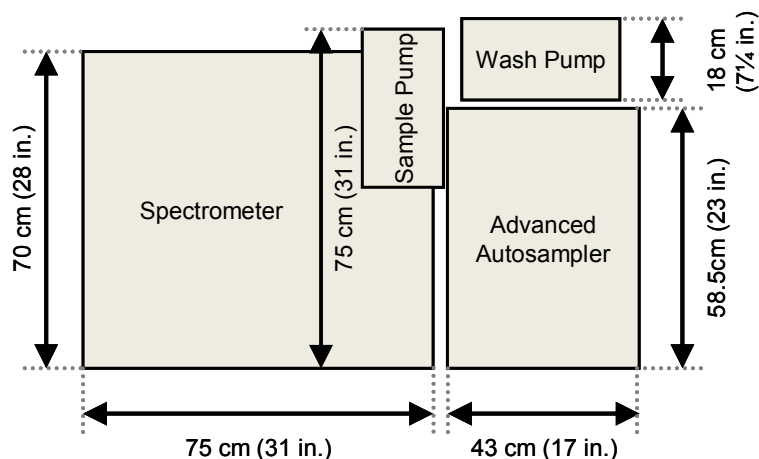

Figure 13. Schematic view of FTIR spectrometer with autosampler
- 2 Place the additional peristaltic pump and the Advanced Autosampler to the right side of the spectrometer, as shown in Figure 13. The tray of the autosampler faces towards the sample compartment of the spectrometer.